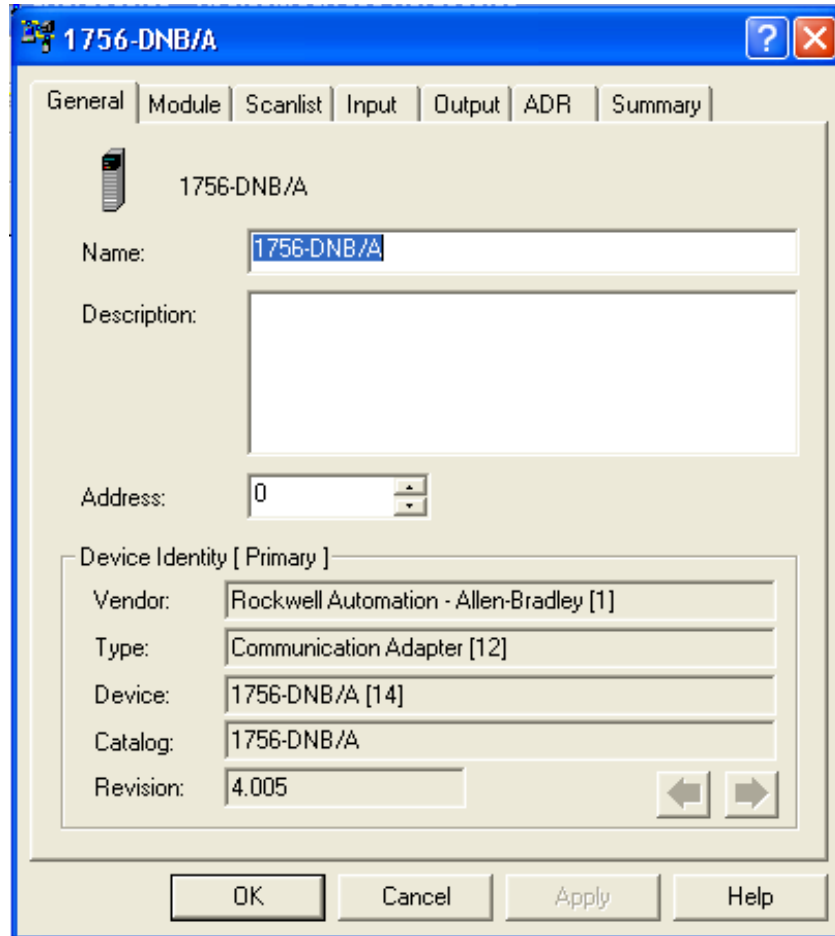

Figure 5-22: Scanner Properties Dialog: Initial View
6. The scanner's properties dialog box will appear, as in Figure 5-22.